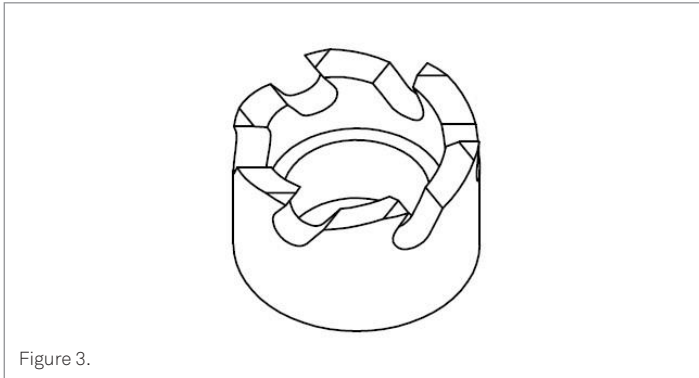

Figure 3.
- The Flat sides on the sensor housing must be positioned as shown on figure 3.